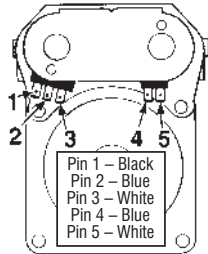

Figure 21 - Measuring gas valve resistance.
3. Use an ohmmeter to determine if a gas valve coil has malfunctioned. Remove harness plugs. Measure resistance across the terminals (see figure 21, page 18). Readings should match those shown in the following chart; if not, replace coils.